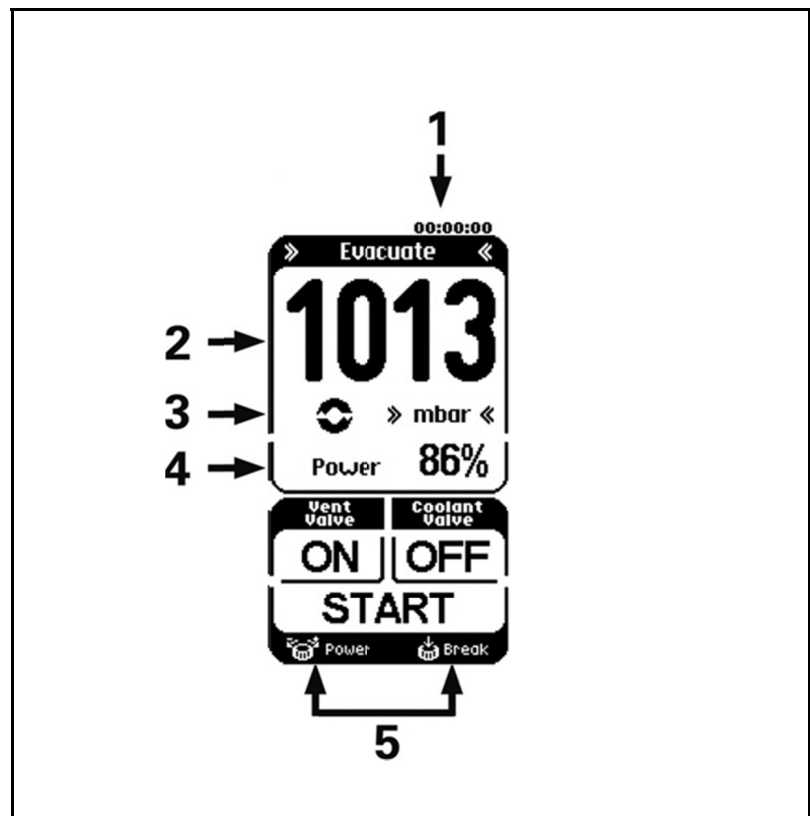

Fig. 4: Displays on the touchscreen
- Display of the most important process variables (Fig. 4, page 19);